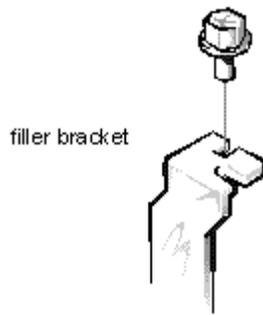

Figure 9-3. Removing the Filler Bracket
3. Unscrew and remove the metal filler bracket that covers the card-slot opening for the expansion slot you intend to use (see Figure 9-3).